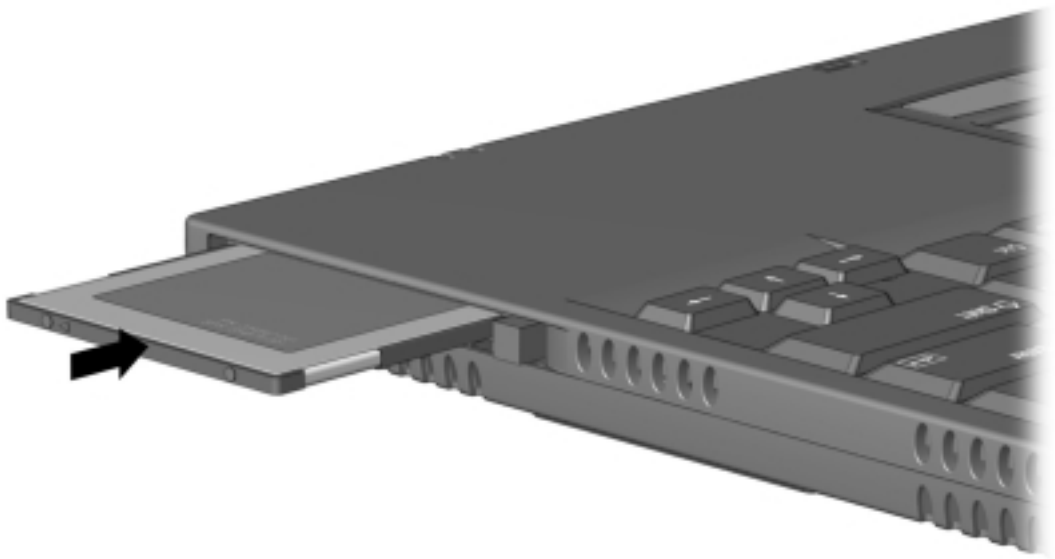

Figure 5-10. Inserting a PC Card
1. With the connector facing the computer and the label side up, insert the PC Card in the slot, aligning the card on the two guide rails inside the PC Card slot (Figure 5-10).